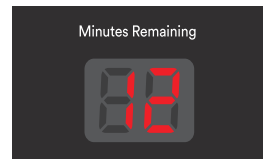

Fig. 12
- The LED display indicator will show the remaining wash time during the washing process (Fig. 12).